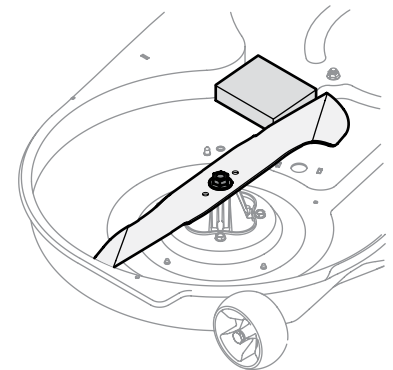

Figure 4-16
- Place a block of wood between the center deck housing baffle and the cutting blade to act as a stabilizer. See Figure 4-16.
- Remove the hex flange nut that secures the blade to the spindle assembly. See Figure 4-16.